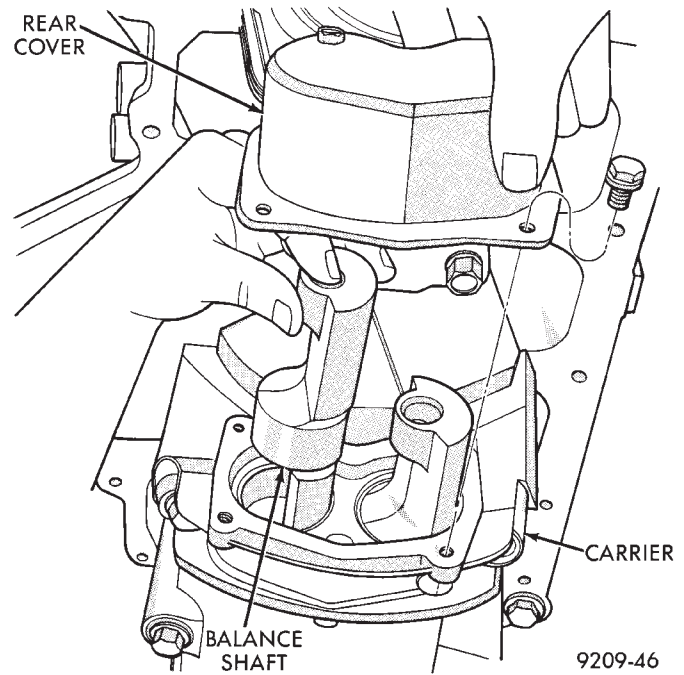

Fig. 43 Balance Shaft(s)—Removal/Installation
The following components will remain intact during carrier removal. Gear cover, gears, balance shafts and the rear cover (Fig. 43).
(1) With balance shafts installed in carrier (Fig. 43) position carrier on crankcase and install four attaching bolts and tighten to 54 N·m (40 ft. lbs.).